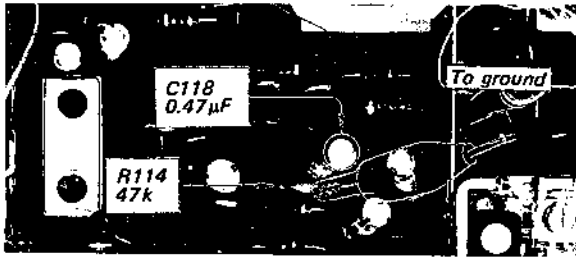

Fig. 3-7. Interruption of AFC circuit
3. Short the connection point of R114 and C118 (AFC circuit) to ground as shown in Fig. 3-7.